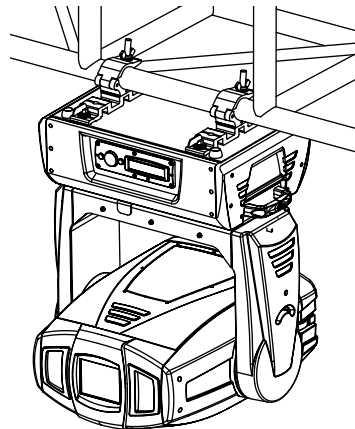

Figure 2-4 Truss Mounting
7. Loop one or more suitable safety cables around the support, around the fixture's base, and around the truss. Figure 2-4 shows an example: